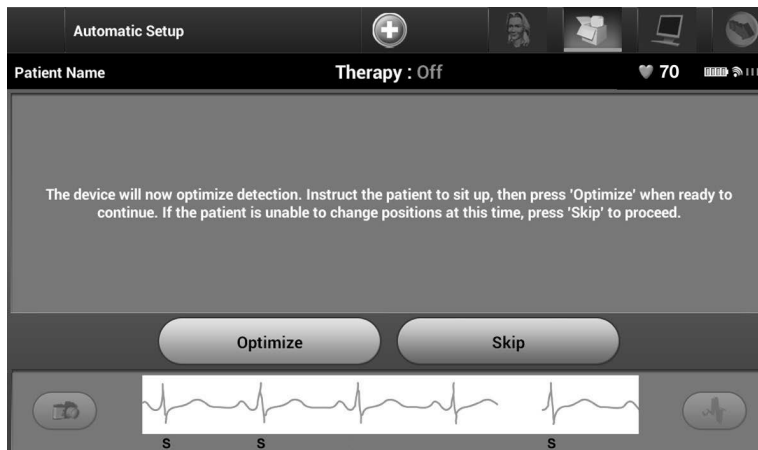

Figure 27: *Automatic Setup screen*
6. The Automatic Setup optimization process will be initiated. The programmer will display a message requesting that the patient sit up. If Automatic Setup is being performed during implant, or if the patient is unable to sit up for some other reason, this step can be omitted by selecting the Skip button (Figure 27). If desired, Automatic Setup can be repeated during a follow-up session to include the optimization step.